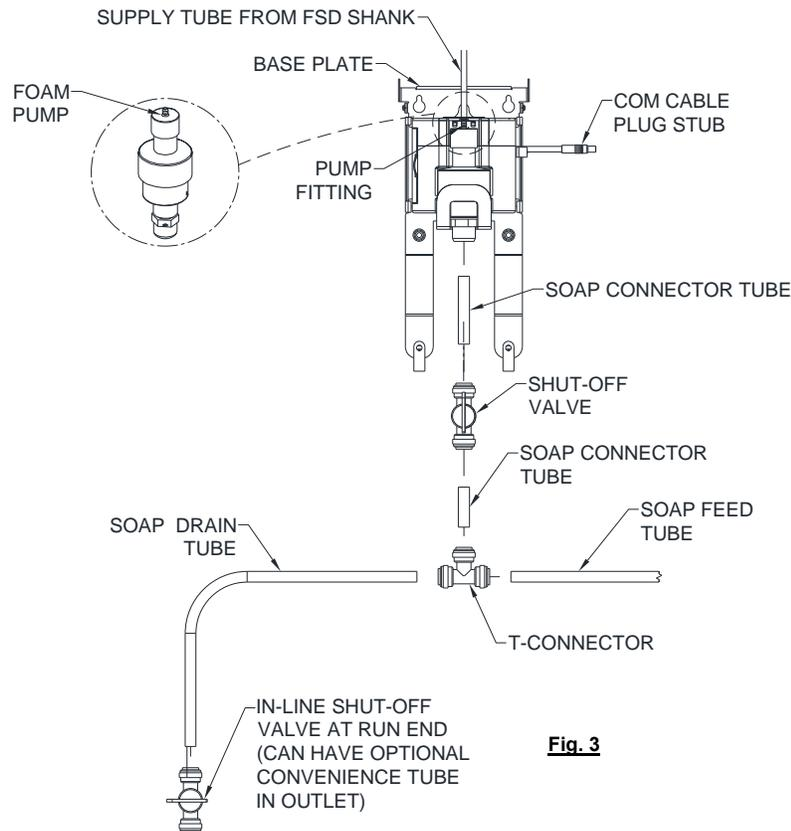

Fig. 3
3. Connect soap supply tube (provided installed in FSD shank, Model № 0389) to fitting on top of CM (Model № 0385). (See Fig. 3)